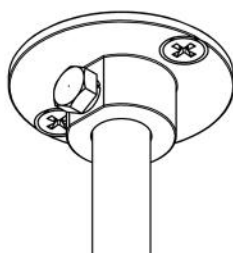

FIG. 7 - INSERT CABLE BASE IN TO CEILING
5. PUSH CABLE BASE INTO HOLE IN CEILING (SEE FIG. 7).